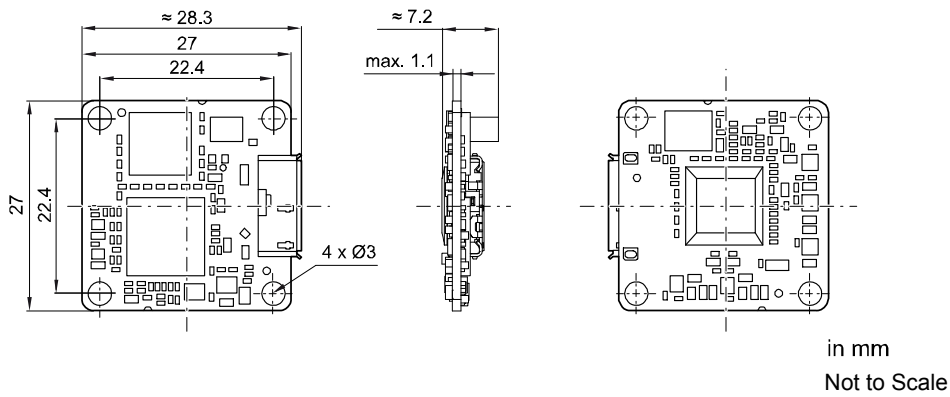

Fig. 5: Mechanical Dimensions (in mm) for Bare Board Cameras
- dart bare board cameras are as shown in Figure 5.